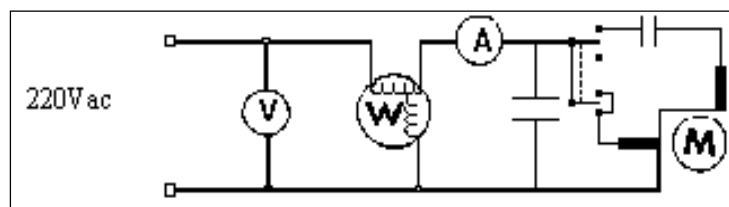

Figure 3.3: Capacitor start motor with shunt capacitor
3. Now connect the capacitor bank across the terminals of the motor as in Figure 3.3.